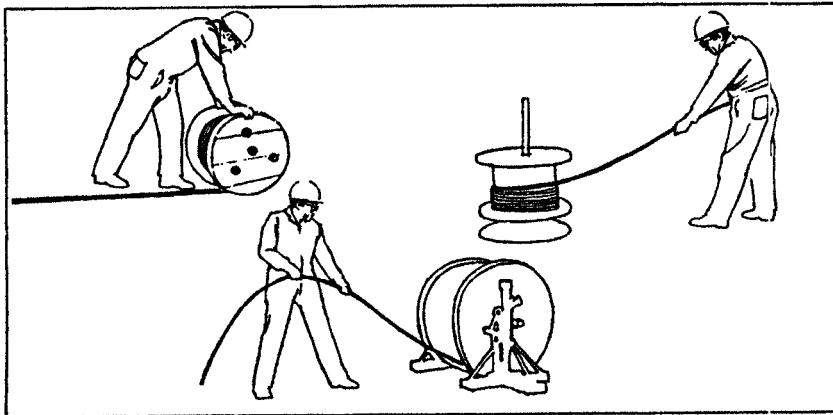

Fig. 2-3 Procedure for unreeing nylon and wire rope
- a. Do not uncoil new nylon rope by pulling the bitter end up through the eye of the coil. Unreel it like wire rope (See **Figure 2-3**). Should kinks develop due to uncoiling they Can be worked out. Never attempt to clear kinks by dragging the rope in the water as this may tend to unbalance the lay and cause irreparable damage to the rope.